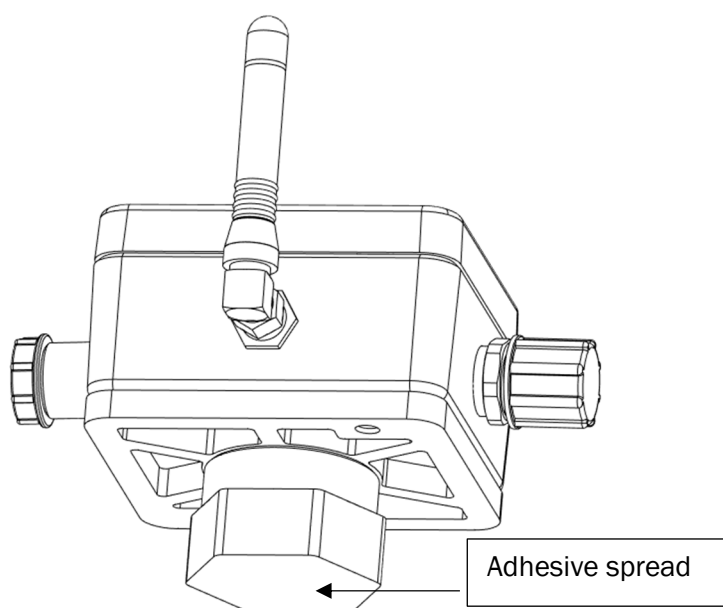

Figure 26 .- Application of the glue on the fixing pad of the module
3. Apply a little amount of adhesive to the bottom of the fixing pad (Figure 26).